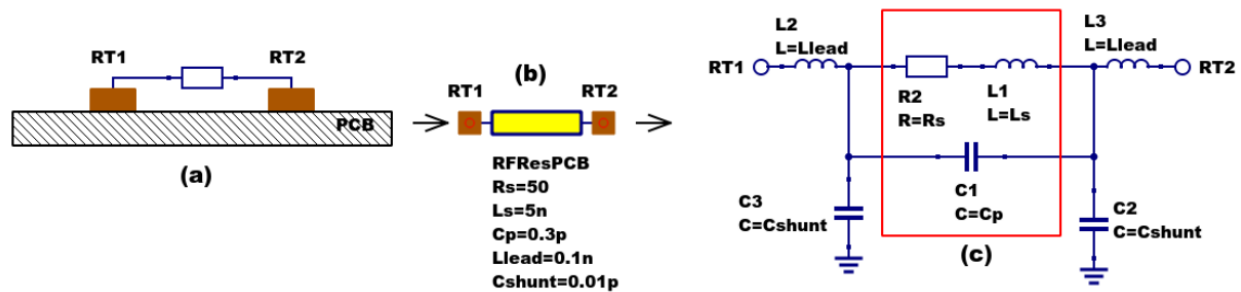

Figure 2 - PCB mounted resistor: (a) axial component mounting, (b) Qucs symbol and (c) equivalent circuit model.
The schematic symbol, I/V equation and parameters of the Qucs linear resistor model are shown in Figure 1. In contrast to this model Figure 2 illustrates the structure of a printed circuit board (PCB) mounted metal film (MF) axial RF resistor (a), its Qucs schematic symbol (b) and its equivalent circuit model (c). A thin film surface mounted (SMD) resistor can also be represented by the model shown in Figure 2 (c).
At signal frequencies where the largest dimension of an axial or SMD resistor is less than approximately 20 times the smallest signal wavelength a resistor can be modelled by a lumped passive circuit consisting of a resistor **Rs** in series with a small inductance **Ls** with the combination shunted by parasitic capacitor **Cp**. In Figure 2 **Rs** is the nominal value of resistor at its parameter extraction temperature **Tnom**, **Ls** represents the inductance associated with **Rs** where the value of **Ls** is largely determined by the trimming method employed during component manufacture to set the value of **Rs** to a specified tolerance. Similarly, capacitor **Cp** models a parasitic capacitance associated with **Rs** where the value of **Cp** is a function of the physical size of **Rs**. At RF frequencies it is important, for accurate operation, to add lead parasitic elements to the intrinsic equivalent circuit model shown within the red box draw in Figure 2. In Figure 2 **Llead** and **Cshunt** represent resistor series lead inductance and shunt capacitance to ground respectively.
A typical set of model parameters for a 51  $\Omega$  5 % MF axial resistor are (1) **Ls = 8nH**, **Cp = 1pF**, **Llead = 1nH** and **Cshunt = 0.1pF**. Illustrated in Figure 3 is a basic S parameter test bench circuit for measuring the S parameters of an RF resistor over a frequency range 1 MHz to 1.3 GHz. This example also demonstrates how the real and imaginary parts of a resistor model impedance can be extracted from S parameter simulation data. The graphs in Figure 3 clearly demonstrate that the impedance of the typical MF RF resistor described in previous text and modelled by the equivalent circuit shown in Figure 2 is a strong function of frequency at higher frequencies in the band 1 MHz to 1.3 GHz.
Figure 8 - Qucs device model parameter extraction system applied to a nominal  $47\ \Omega$  resistor represented by the subcircuit model illustrated in Figure 2 (c). Fixed model parameter values:  $R_s = R_m = 47.3\ \Omega$ ,  $C_{Shunt} = 0.08\text{pF}$ ; Optimised values:  $L_s = L = 10.43\text{nH}$ ,  $L_{lead} = LL = 1.47\text{nH}$ ,  $C_p = C = 0.69\text{pF}$ . To reduce simulation time the ASCO cost variance was set to  $1e-3$ . The ASCO method was set to DE/best/1/exp.
Figure 11 - Qucs device model parameter extraction system applied to a nominal 1000  $\Omega$  resistor represented by the subcircuit model illustrated in Figure 2(c).
Figure 13 - Qucs device model parameter extraction system applied to a nominal 100  $\Omega$  SMD resistor represented by the subcircuit model illustrated in Figure 2 (c).
Listed below is an example Verilog-A code model for the RF resistor model introduced in Figure 2 (c). Due to the limitations of the Verilog-A language subset provided by version 2.3.4 of the "Analogue Device Model Synthesizer" (ADMS)4 inductors **Ls** and **Llead** are modelled by gyrators and capacitors with values identical to **Ls** or **Llead**.